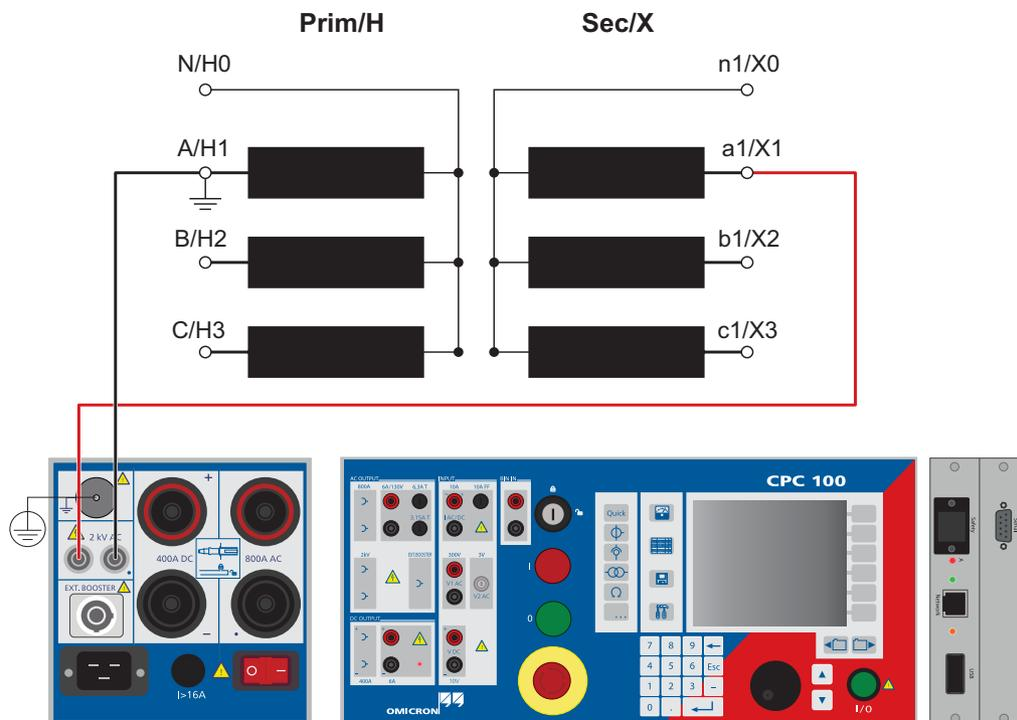

Figure 7-28: Setup for a power transformer voltage withstand test
As shown in Figure 7-28, connect the 2kV output socket without point to the transformer's secondary (a) winding connection, and the output socket marked with a point to earth and the transformer's primary connection (A).